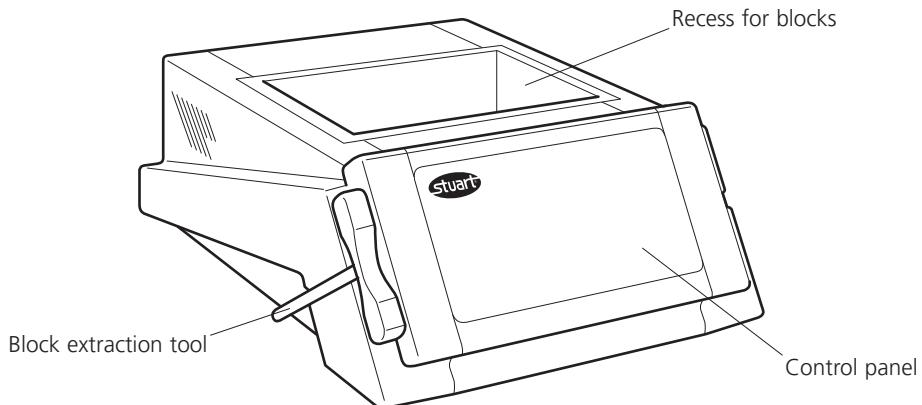

Figure 1: Front view
The blocks are fitted into the recess in the top of the instrument (see figure 1) and heated from below. All blocks are fully interchangeable and blocks for different sizes of container may be used in a block heater at the same time.
- Carefully place the appropriate number of aluminium blocks into the recess in the top of the instrument – see figure 1.
- Fit safety cover if required. This may simply rest on the top of the block heater or be hinged by using the screws provided. These should be located in the holes at the top rear of the block heater (see figure1).